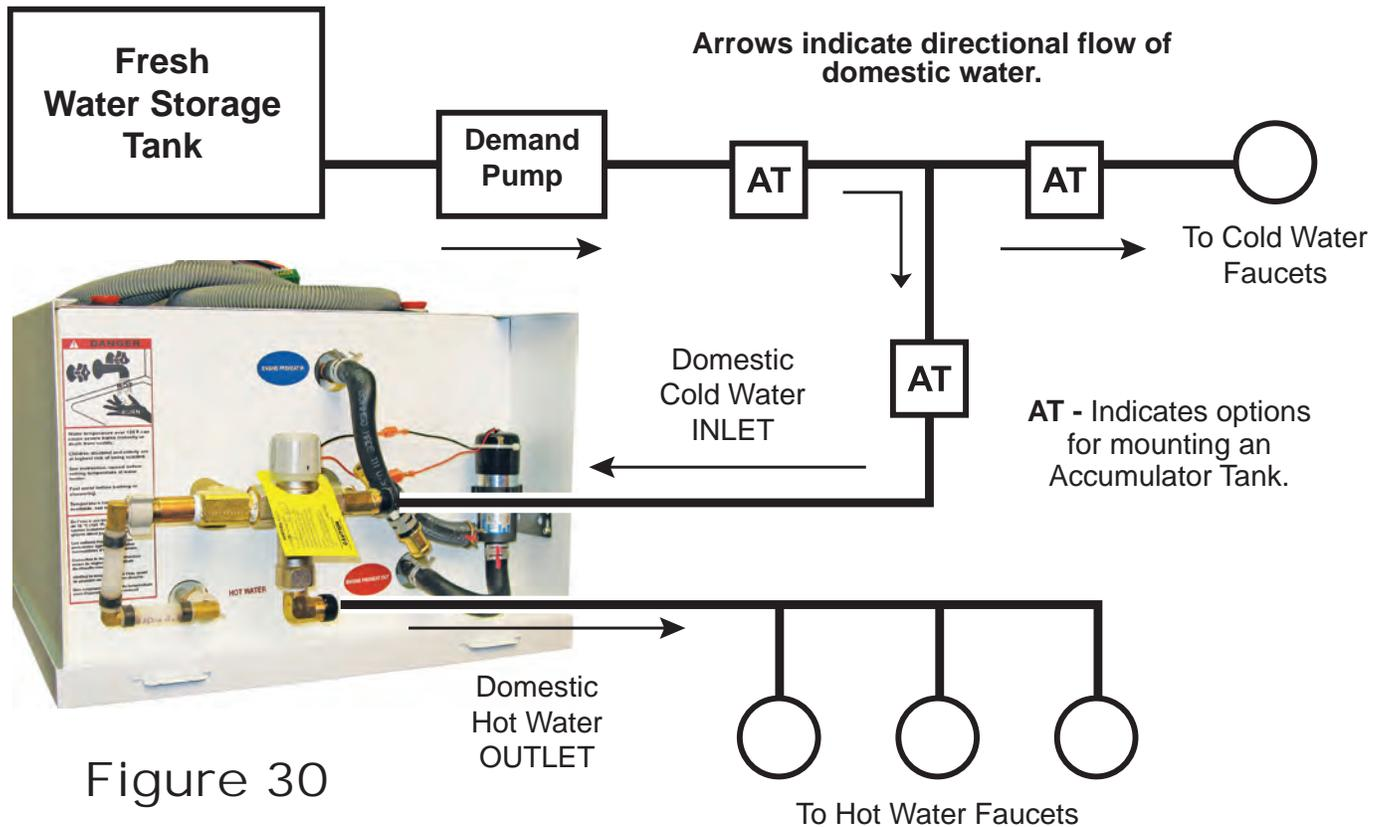

Figure 30
**NOTE:** Please note that it may be necessary to utilize an accumulator tank within the domestic water system. Reference Figure 30. Although the Aqua-Hot is equipped with a pressure-relief valve, the use of an accumulator tank will help prevent excessive “weeping” of the valve. Manufacturers of pressure-relief valves indicate that excessive weeping of these valves will cause the “seat” in the valve to deteriorate, and, in turn, the valve will fail prematurely. For additional information regarding accumulator tanks, please be sure to reference the Recreational Vehicle Industry Association’s (RVIA) technical publication titled “Recreational Vehicle Plumbing Systems.” To obtain a copy of this particular publication, please contact RVIA at (703) 620-6003 or visit them online at [www.rvia.org](http://www.rvia.org).